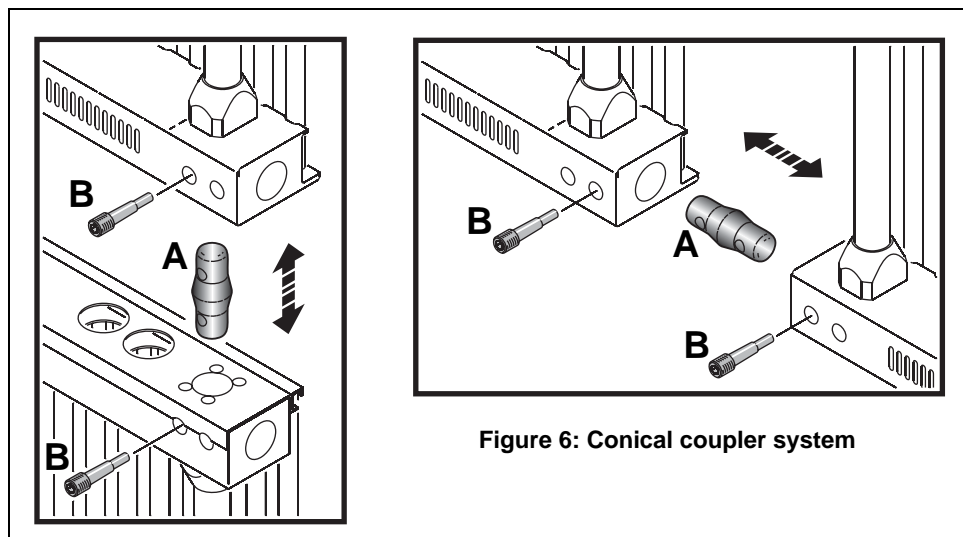

Figure 6: Conical coupler system
7. See Figure 6. Continue hanging panels, attaching them with conical couplers (A) secured with threaded spigots (B) as illustrated. As soon as a panel is added to an array, secure it with two safety attachments.